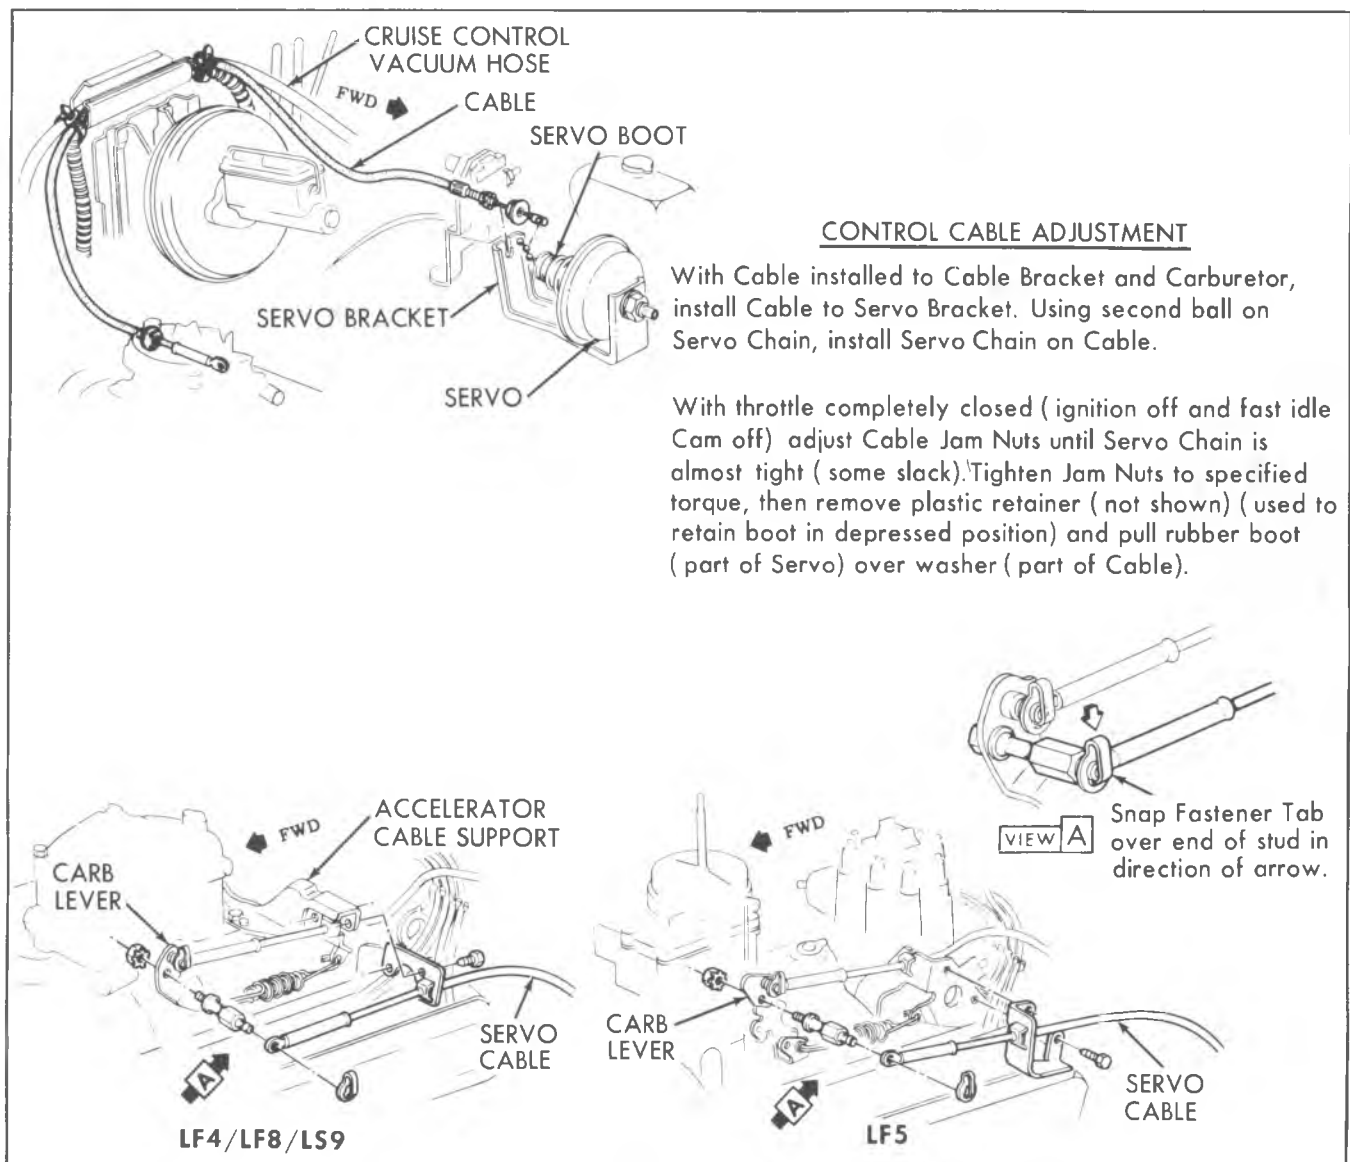

Fig. 4C--Servo Composite (C-K Trucks)
SERVO UNIT (FIG. 4C)
"OFF". Adjust the cable so there is as little lost motion at the Servo as possible (see Fig. 4C).
BRAKE RELEASE SWITCHES (Fig. 4C)
6. Adjust the servo cable as outlined in Figure 4C.